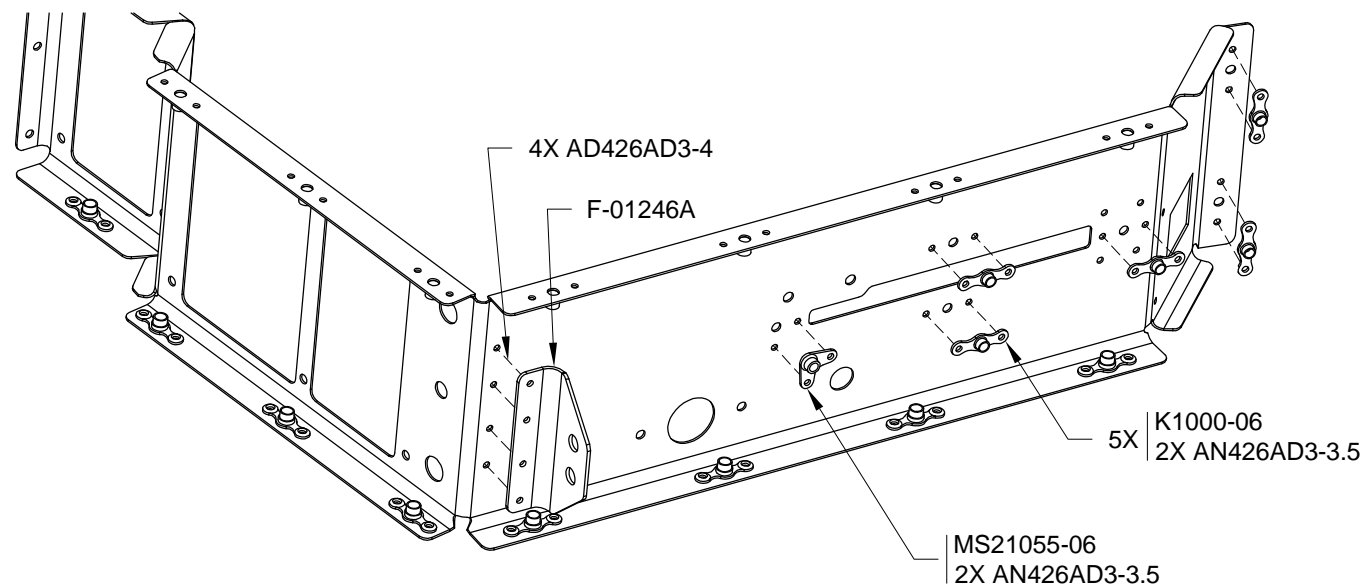

FIGURE 2: F-01246 PARTS AND HARDWARE
Step 3: Rivet the F-01246A Throttle Cable Bracket and nutplates to the F-01246 as shown in Figure 2.